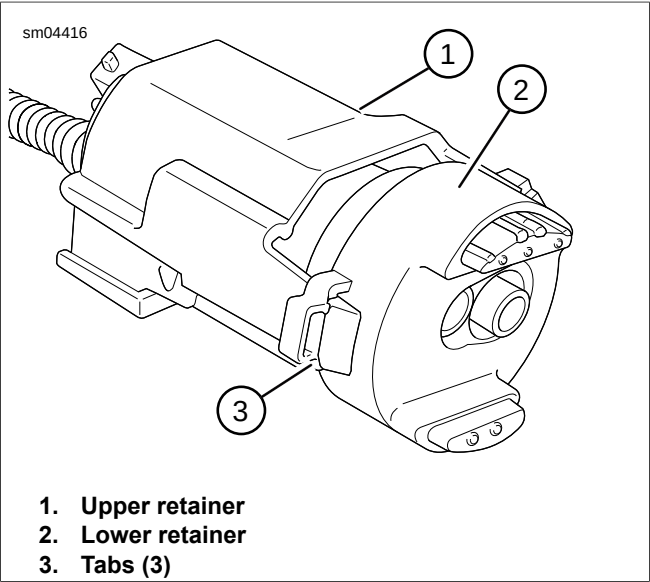
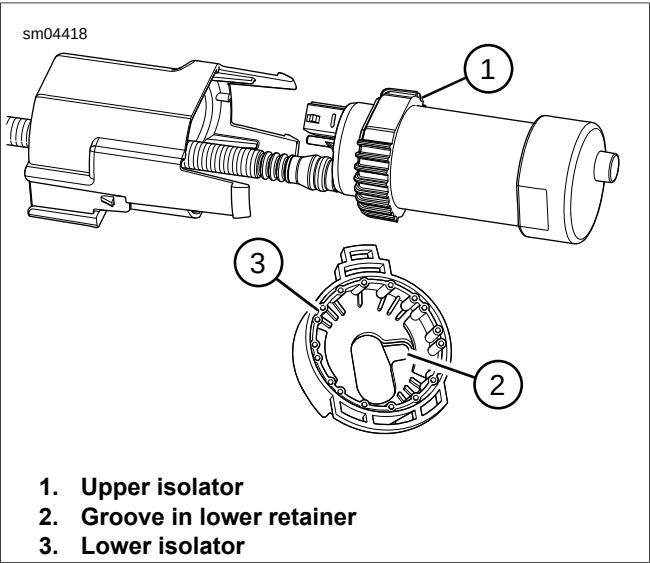

Figure 4-46. Fuel Pump
Figure 4-47. Fuel Pump Isolators
4. See Figure 4-46. Press tabs (3) and remove lower retainer (2) from upper retainer (1).
5. See Figure 4-47. Remove upper isolator (1) from fuel pump and replace pump.
6. Install upper isolator (1) onto fuel pump.
8. Make sure lower isolator (3) is properly positioned in lower retainer. Groove in lower retainer (2) should be visible with lower isolator installed.
9. See Figure 4-46. Install lower retainer.